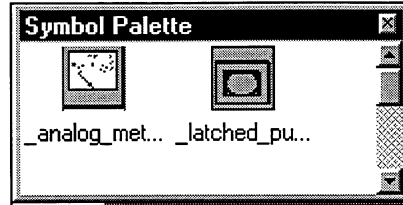

Figure 8-2. Symbol Palette Window
2. Select the Symbol Palette command on the View menu to open the Symbol Palette, shown in Figure 8-2.